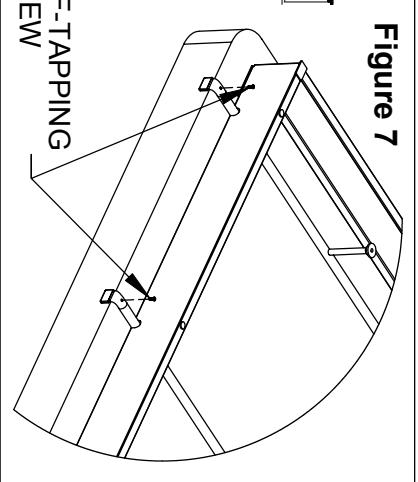

Figure 7
- Step 4:** Secure the CROSS TUBES to the box spring with the SELF-TAPPING SCREWS as shown in Figure 7.